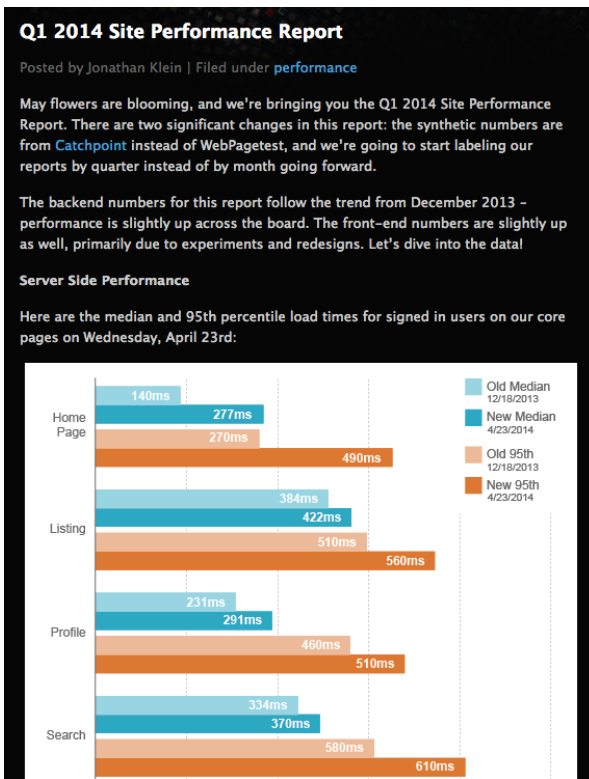

Figure 8-1. Etsy's performance report details load time for top pages and what changes contributed to the load time each quarter.
- Communicating publicly about changes in site performance and recent experiments and learnings, as shown in Figure 8-1